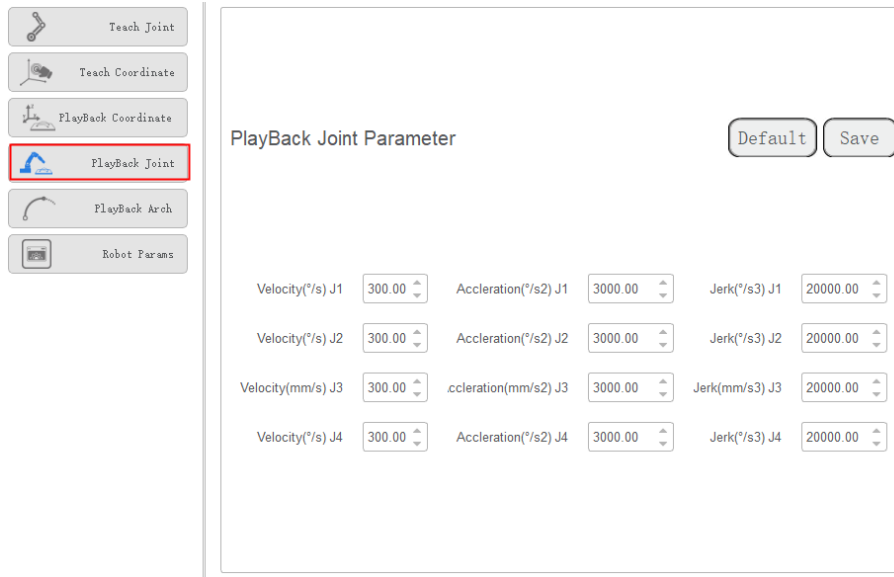

Figure 3.39 Playback parameters in the Joint coordinate system
- **Playback Joint Parameter:** Set the maximum velocity, acceleration, and jerk in the Joint coordinate system when running robot programs. The playback parameters of a robot in the Joint coordinate system are as shown in Figure 3.39.